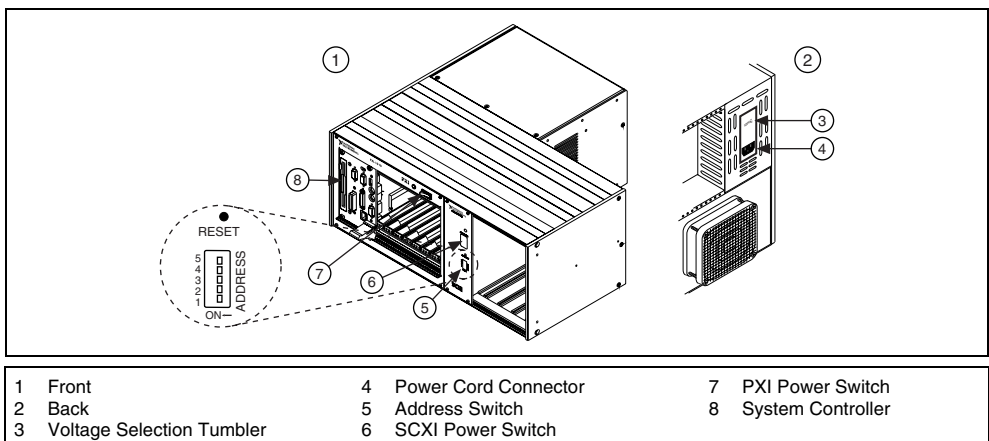

Figure 3. PXI/SCXI Combination Chassis Setup
2. Set the SCXI address switches positions to off. In Figure 3, all switches are shown in the off position.